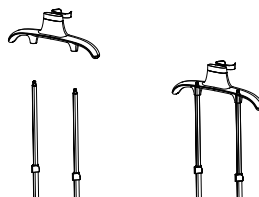

FIG 2
6. Align rod slot with protruding of hanger,place the hanger on the poles. (FIG 2)